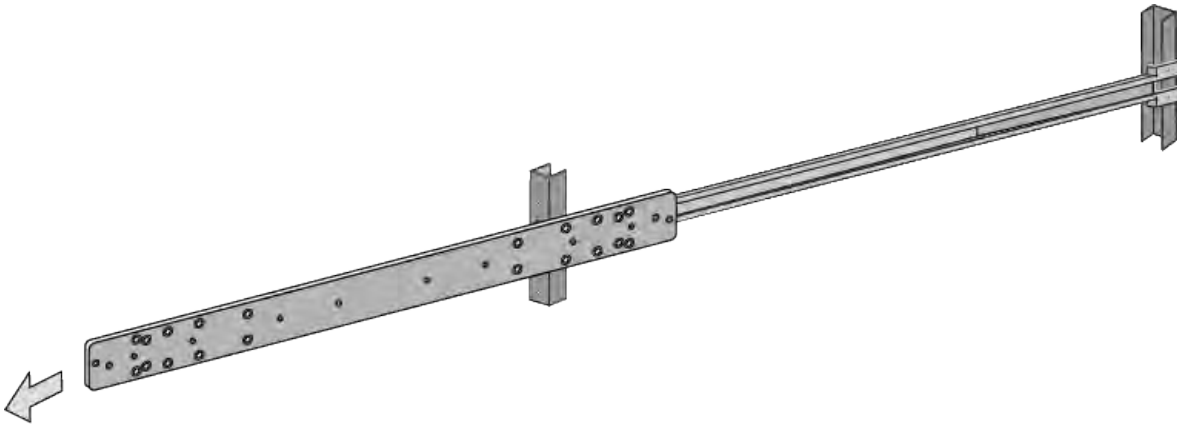

Figure 90. Removing the Inner Rail
4. Remove the inner rail from the outer rail. Refer to Figure 90.